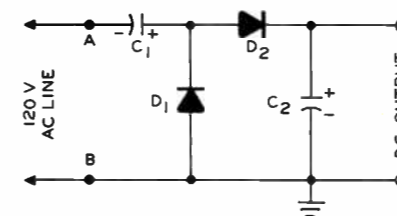

FIGURE 21
40. In the circuit of Figure 21 one side of the ac line forms part of the dc output circuit, and there is less chance of unwanted signals appearing in the output.
In the circuit of Figure 21, (A) D_1 conducts when point A is POSITIVE with respect to point B. (B) C_1 charges to half the peak of the ac line voltage. (C) D_2 conducts when point A is NEGATIVE with respect to point B. (D) C_2 charges to twice the peak of the ac line voltage.